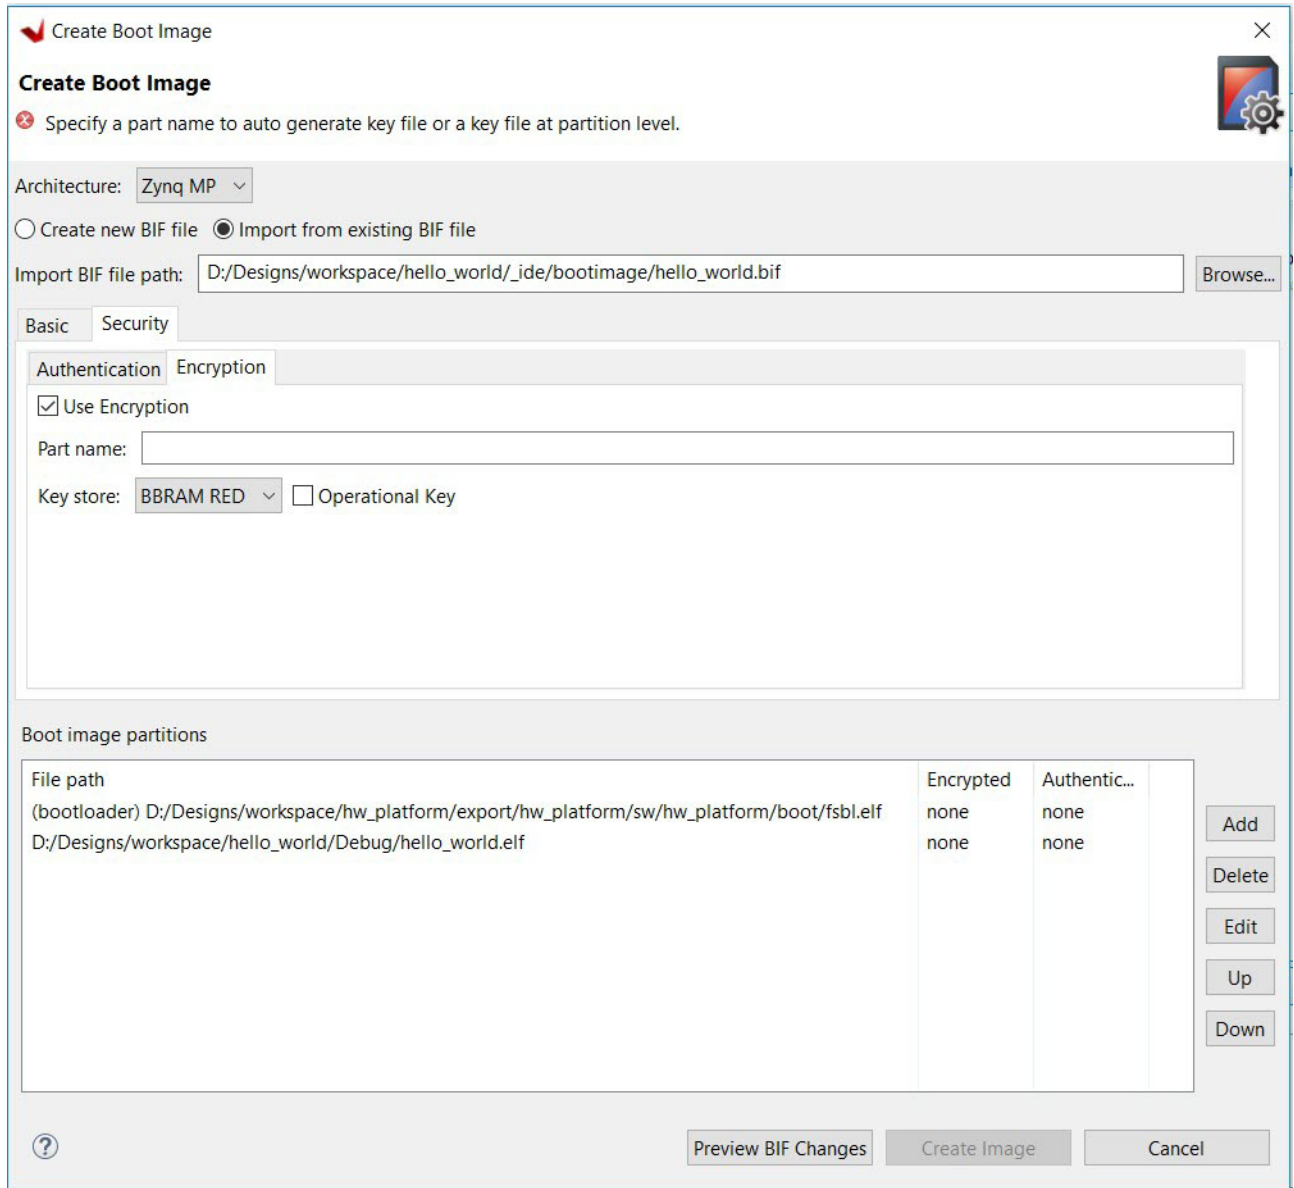

Figure 17: Create Boot Image Encryption
- Click **Security** tab, then click **Encryption** tab, and check **Use Encryption**. Under Key store select BBRAM RED (Figure 17).